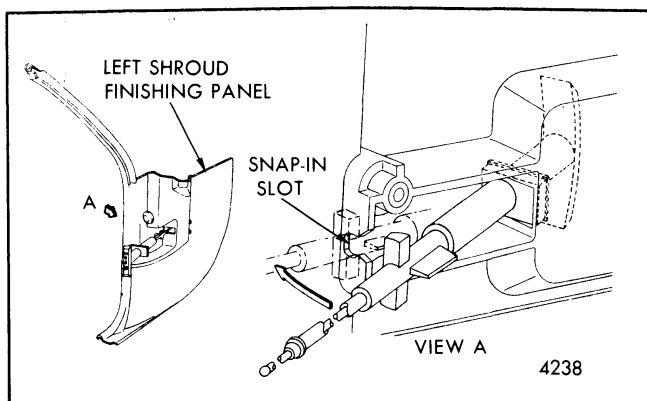

Fig. 4-12-Hood Latch Release Cable
The rear section of the hood latch release cable includes the pull handle, control cable and housing. The control cable is installed through the left shroud side finishing panel (Fig. 4-12). A sealing grommet at the dash panel completes the assembly.
4. Disengage control assembly housing from snap-in slot of finishing panel (Fig. 4-12) and remove